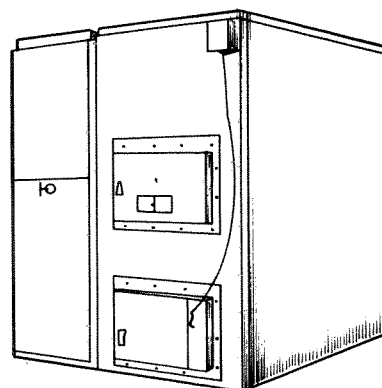

Fig. 78. Duo-Matic Model CWO multifuel furnace.
7. **Duo-Matic Division** (manufacturer), 2413 Bond St., Park Forest South, IL 60466, and Duo-Matic of Canada (manufacturer), Waterford, Ontario, Canada NOE 1Y0. Duo-Matic's furnace (Fig. 78 and Table 10) has two combustion chambers, one for oil or gas and the other for wood or coal, with two thermostatic controls for automatic switchover from wood or coal to oil or gas. Oil or gas burner will not become fouled with ashes or soot from wood/coal chamber. Regular-size air filters. Solid-fuel chamber has cast-iron grates. Heat exchanger is standard, as is a "heat-limit control" device which prevents excessive temperatures by automatically closing the damper.